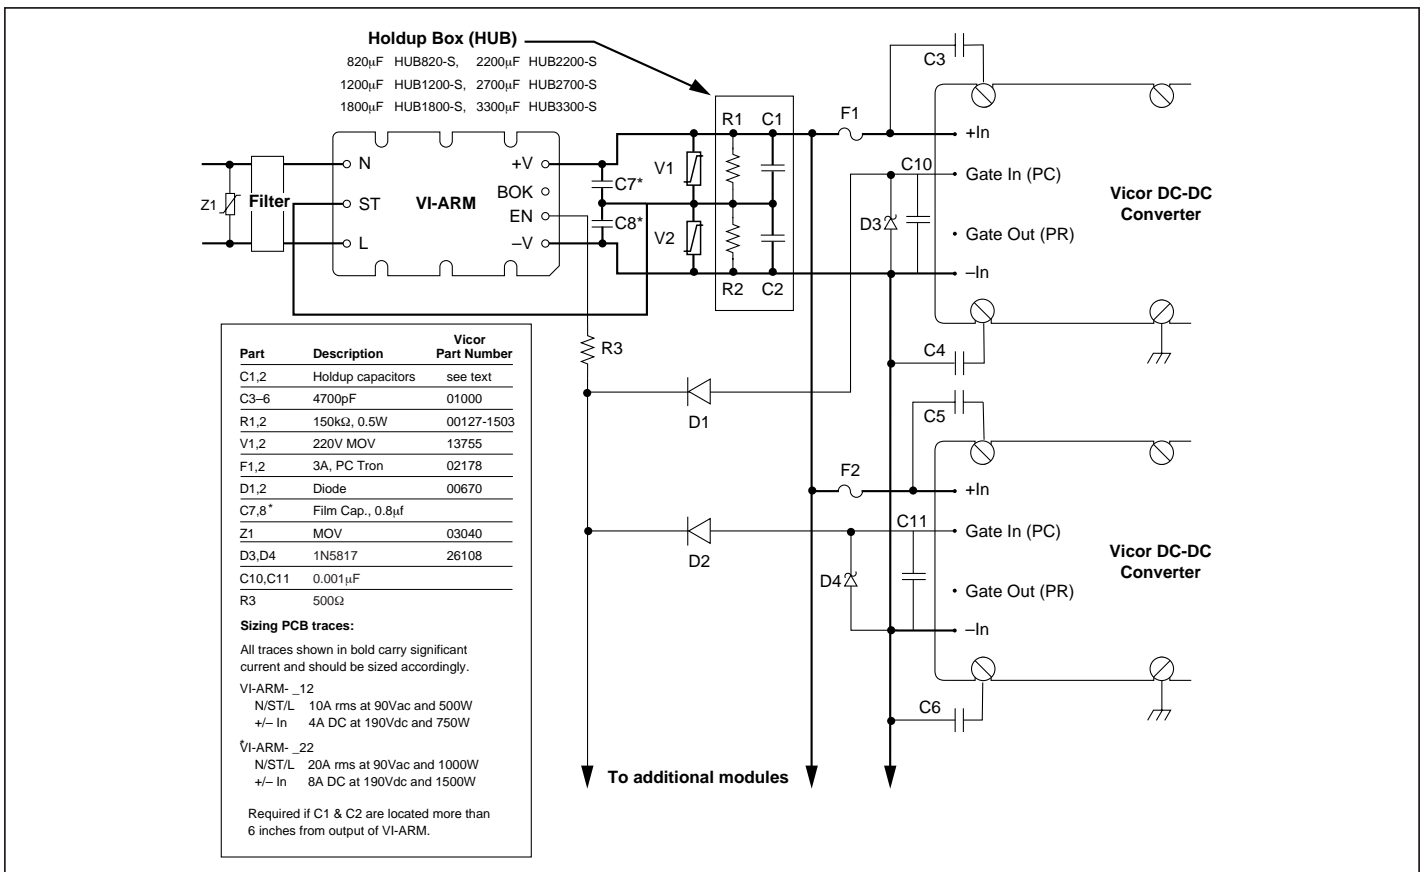

Figure 8—Converter connections
**Strap (ST) Pin.** In addition to input and output power pin connections, it is necessary to connect the Strap pin to the junction of the series holdup capacitors (C1, C2, Fig. 8) for proper (autoranging) operation. Gas tubes across the capacitors provide input transient protection. The bleeder resistors (R1, R2, Fig. 8) discharge the holdup capacitors when power is switched off.
It should be noted that the series combination ( $C1$ ,  $C2$ , Fig. 8) requires each capacitor to be twice the calculated value, but the required voltage rating is reduced to 200V.